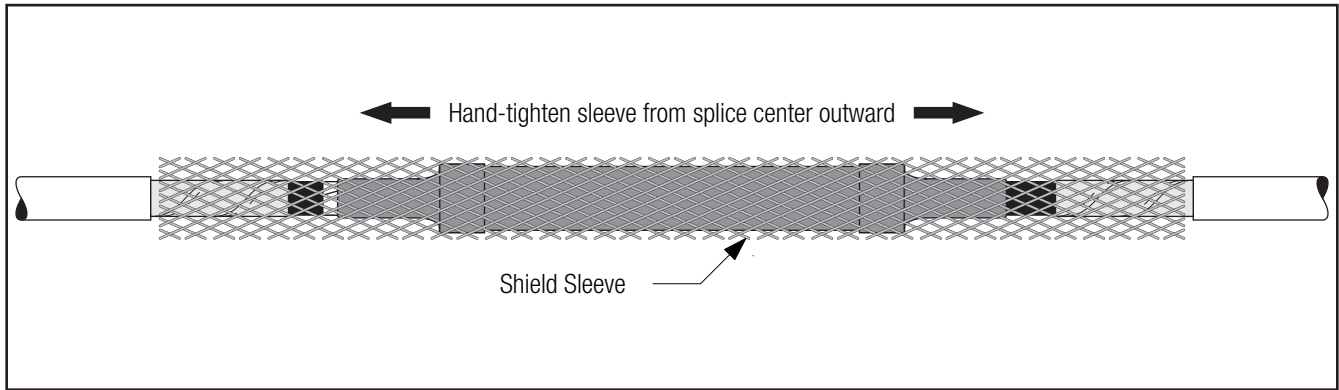

Figure 21
6.1 Center the expanded shield sleeve over splice body. Hand-tighten sleeve from splice center outward in both directions (*Figure 21*).